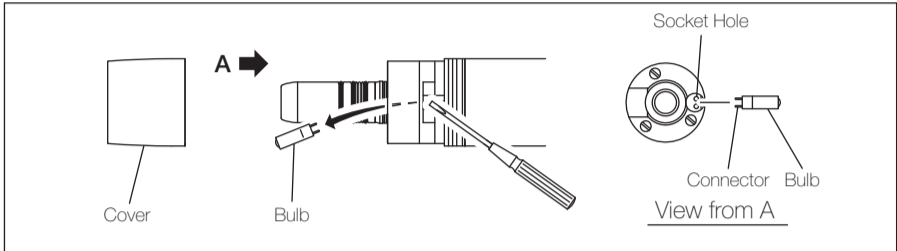

Fig. 6
- (1) Loosen Motor Housing and detach from the motor, and remove the old light bulb using the small pin, like the screw driver. (Fig. 6)
- (2) Align and insert the connector of the new bulb into the socket hole securely. Screw the motor housing securely to the motor.